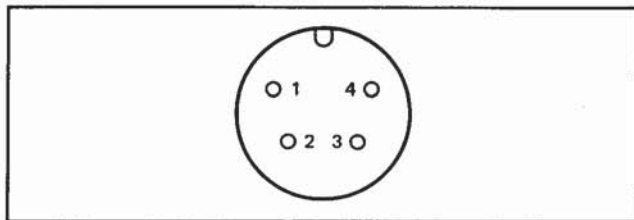

Figure 7-23. Pin Orientation on RF Detector Connector
- g. Connect digital multimeter between pins 1 and 2 of detector connector (Figure 7-23) and measure the resistance value of R1 (typical value is 40.5k $\Omega$ ). This resistance value is hereafter known as RT; record this value.